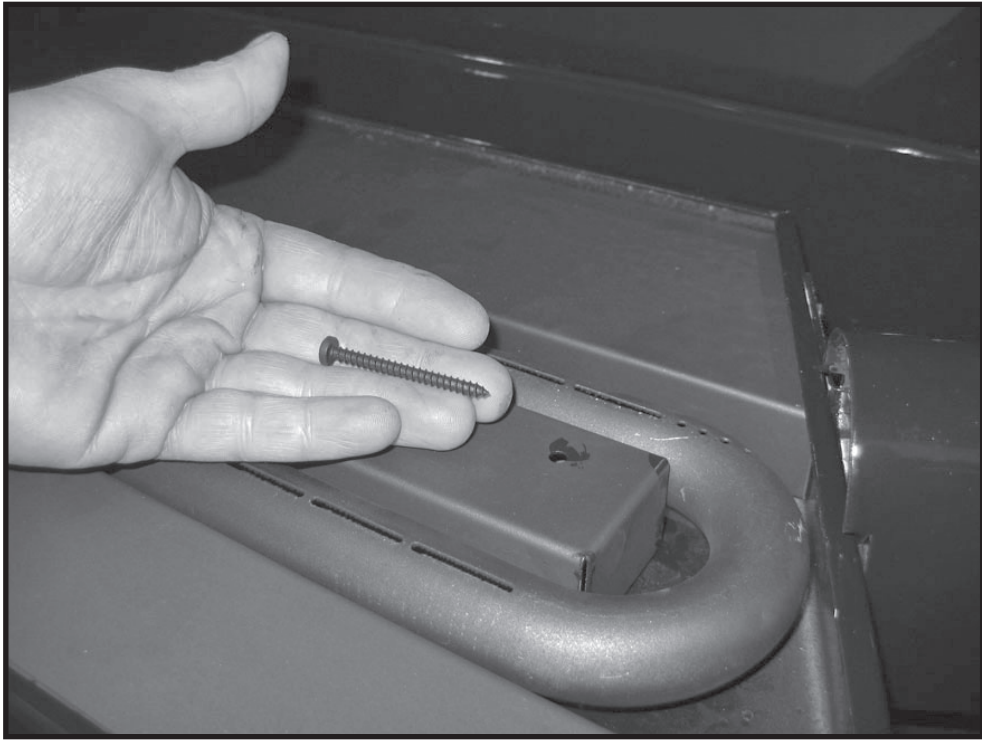

Figure 19: Center media spacer and securing screws.
10. Install the center media spacer. Secure the spacer and burner with two long screws (Figure 19). Four holes must line up to set each screw. Some pressure may need to be applied to the front tray support on the shield to align the holes (Figure 20).